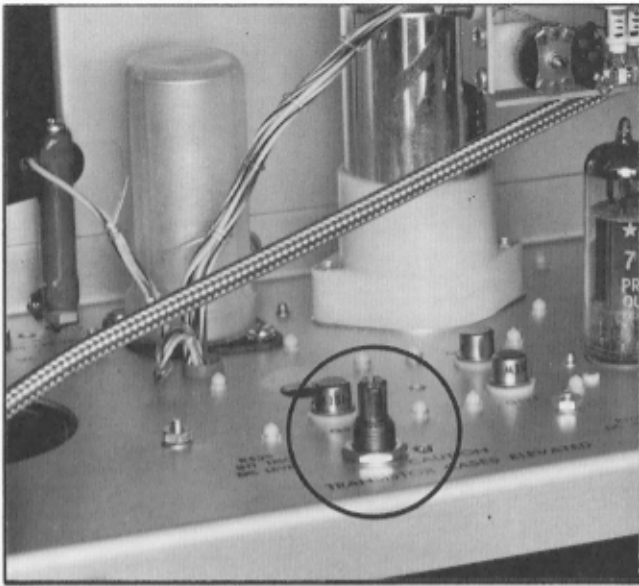

Fig. 6-17. Location of Int Trig DC Level R539.
17. Adjust Internal Triggering DC LEVEL ①
- c. Adjust the Int Trig DC Level R539 (see Fig. 6-17), for a stable triggered display with the SLOPE switch in either + or - positions.
19. Adjust A Preset Adjustment ①